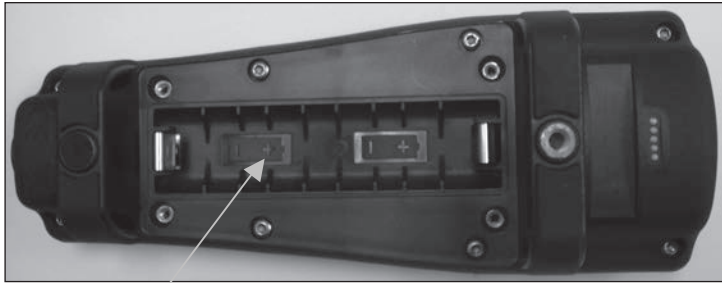

Figure 1. Pro10 with battery cover removed. Notice battery symbols indicating polarities.
4. Install the new batteries, ensuring correct polarity alignment (figure 1).